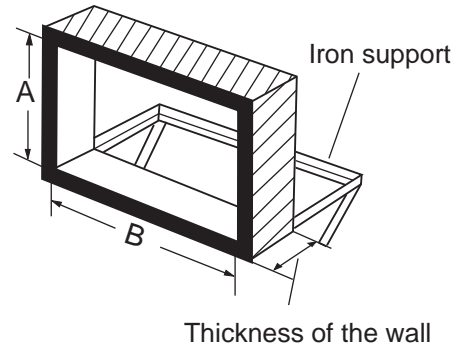

Fig.1
1. Cut a wall hole or a window hole (see Fig.1).